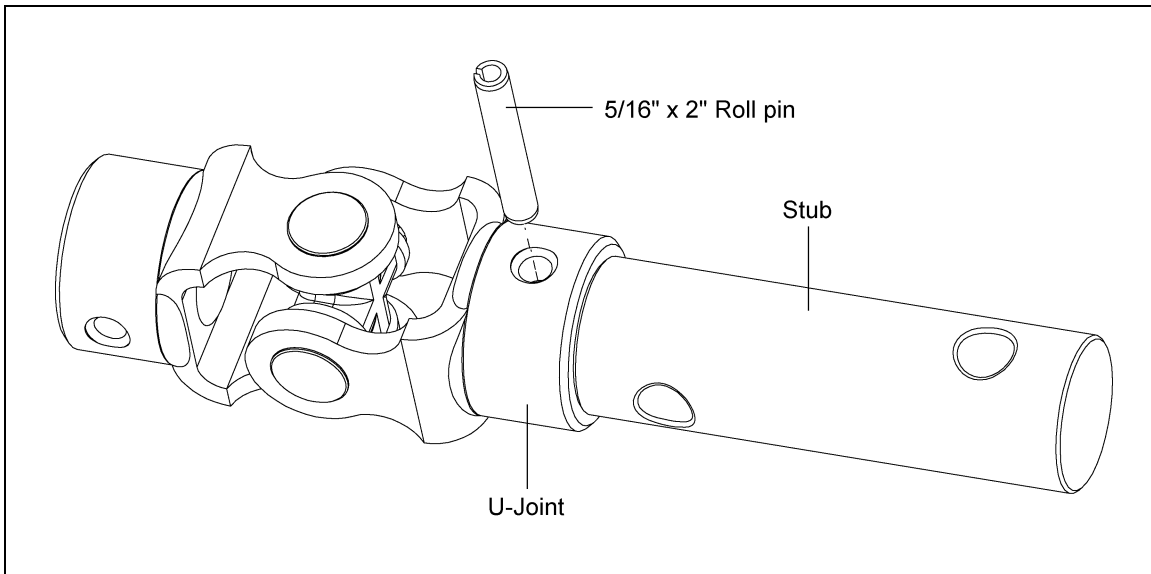

Figure 4W
- b. Secure the U-joint using a 5/16" x 2" roll pin. Drive the pin in with a hammer. *(See Figure 4W.)*